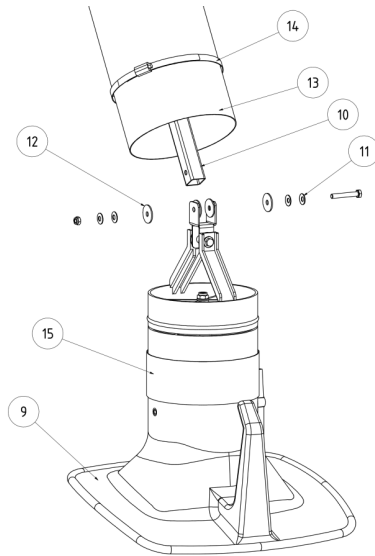

Fig. 5-11
- Install the exhaust hood (9) onto the free end of the extraction arm (10). Position the plate springs (11) and brake disc (12) as shown in Figure 5-11.
- Pull the tube end (13) over the sockets and tighten the tube clamp (14).
- Cover the tube clamp, tube end and the gap between the socket and rotary exhaust hood with the wide rubber ring (15).